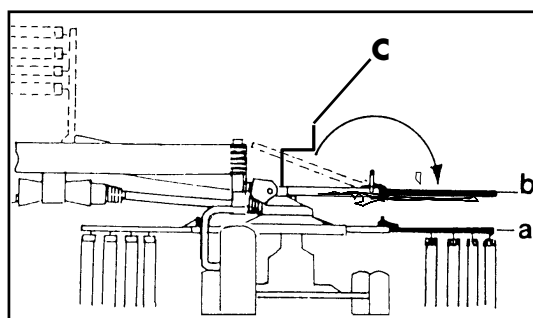

Fig. 3-8a
4. If necessary remove tine bars from the frame, clip them into the rotor arms and secure using linch pins. Attention: there are left hand and right hand tine bars! (a) (fig. 3-8a)
6. Adjust the height of the rotary units by means of the cranks so that the tines just touch the ground. (Fig. 3-8a). Secure the crank (c) against turning.